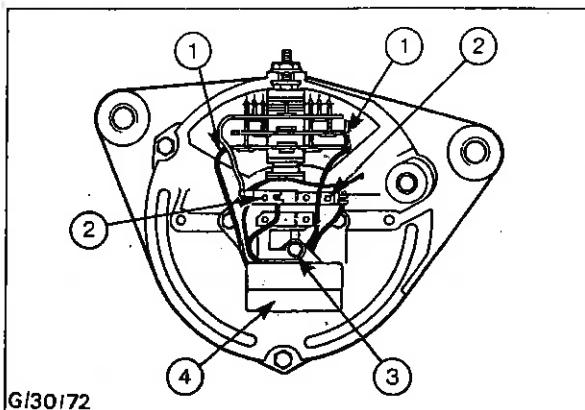

Fig. 10 - Removing Regulator
4. Make a note of the regulator leads terminations, then disconnect leads (1) from the rectifier. Remove screw (2) securing retaining two regulator leads. Remove screw (3) and detach regulator (4) - see Fig. 10.